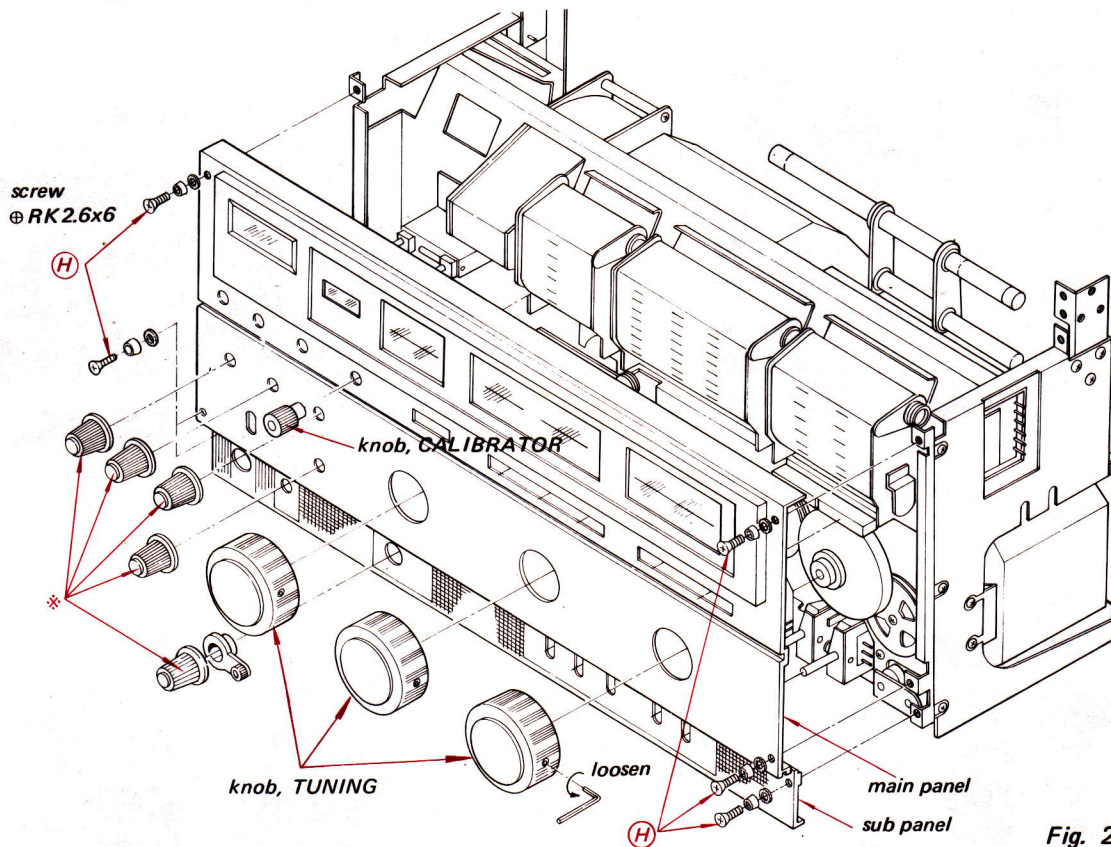

Fig. 2-2
2. Pull out the five control knobs marked * in Fig. 2-2.
3. Remove the six screws marked (H) and remove the main panel and the sub-panel.